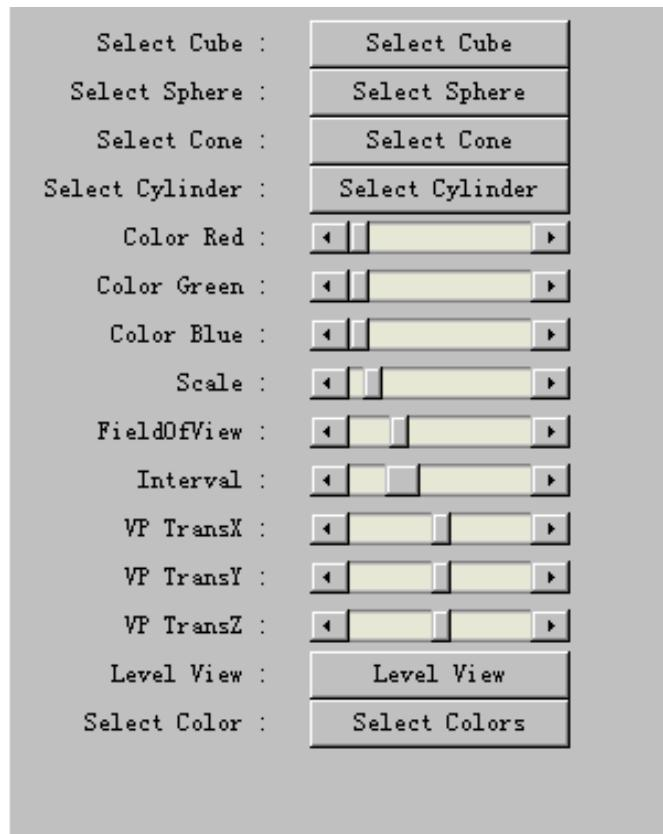

Figure 369: The Navigation Panel
- Click “Select Cube” button, to select box as the nodes’ geometry in the scene as in Figure 369.
- Click “Select Sphere” button, to select sphere as the nodes’ geometry in the scene when the scene generation is finished, as in Figure 369.
- Click “Select Cone” button, to select cone as the nodes’ geometry in the scene when the scene generation is finished, as in Figure 369.
- Click “Select Cylinder” button, to select cylinder as the nodes’ geometry in the scene when the scene generation is finished, as in Figure 369.
Change the Viewpoint, use built-in VIEPOINT button, as in Figure 369.